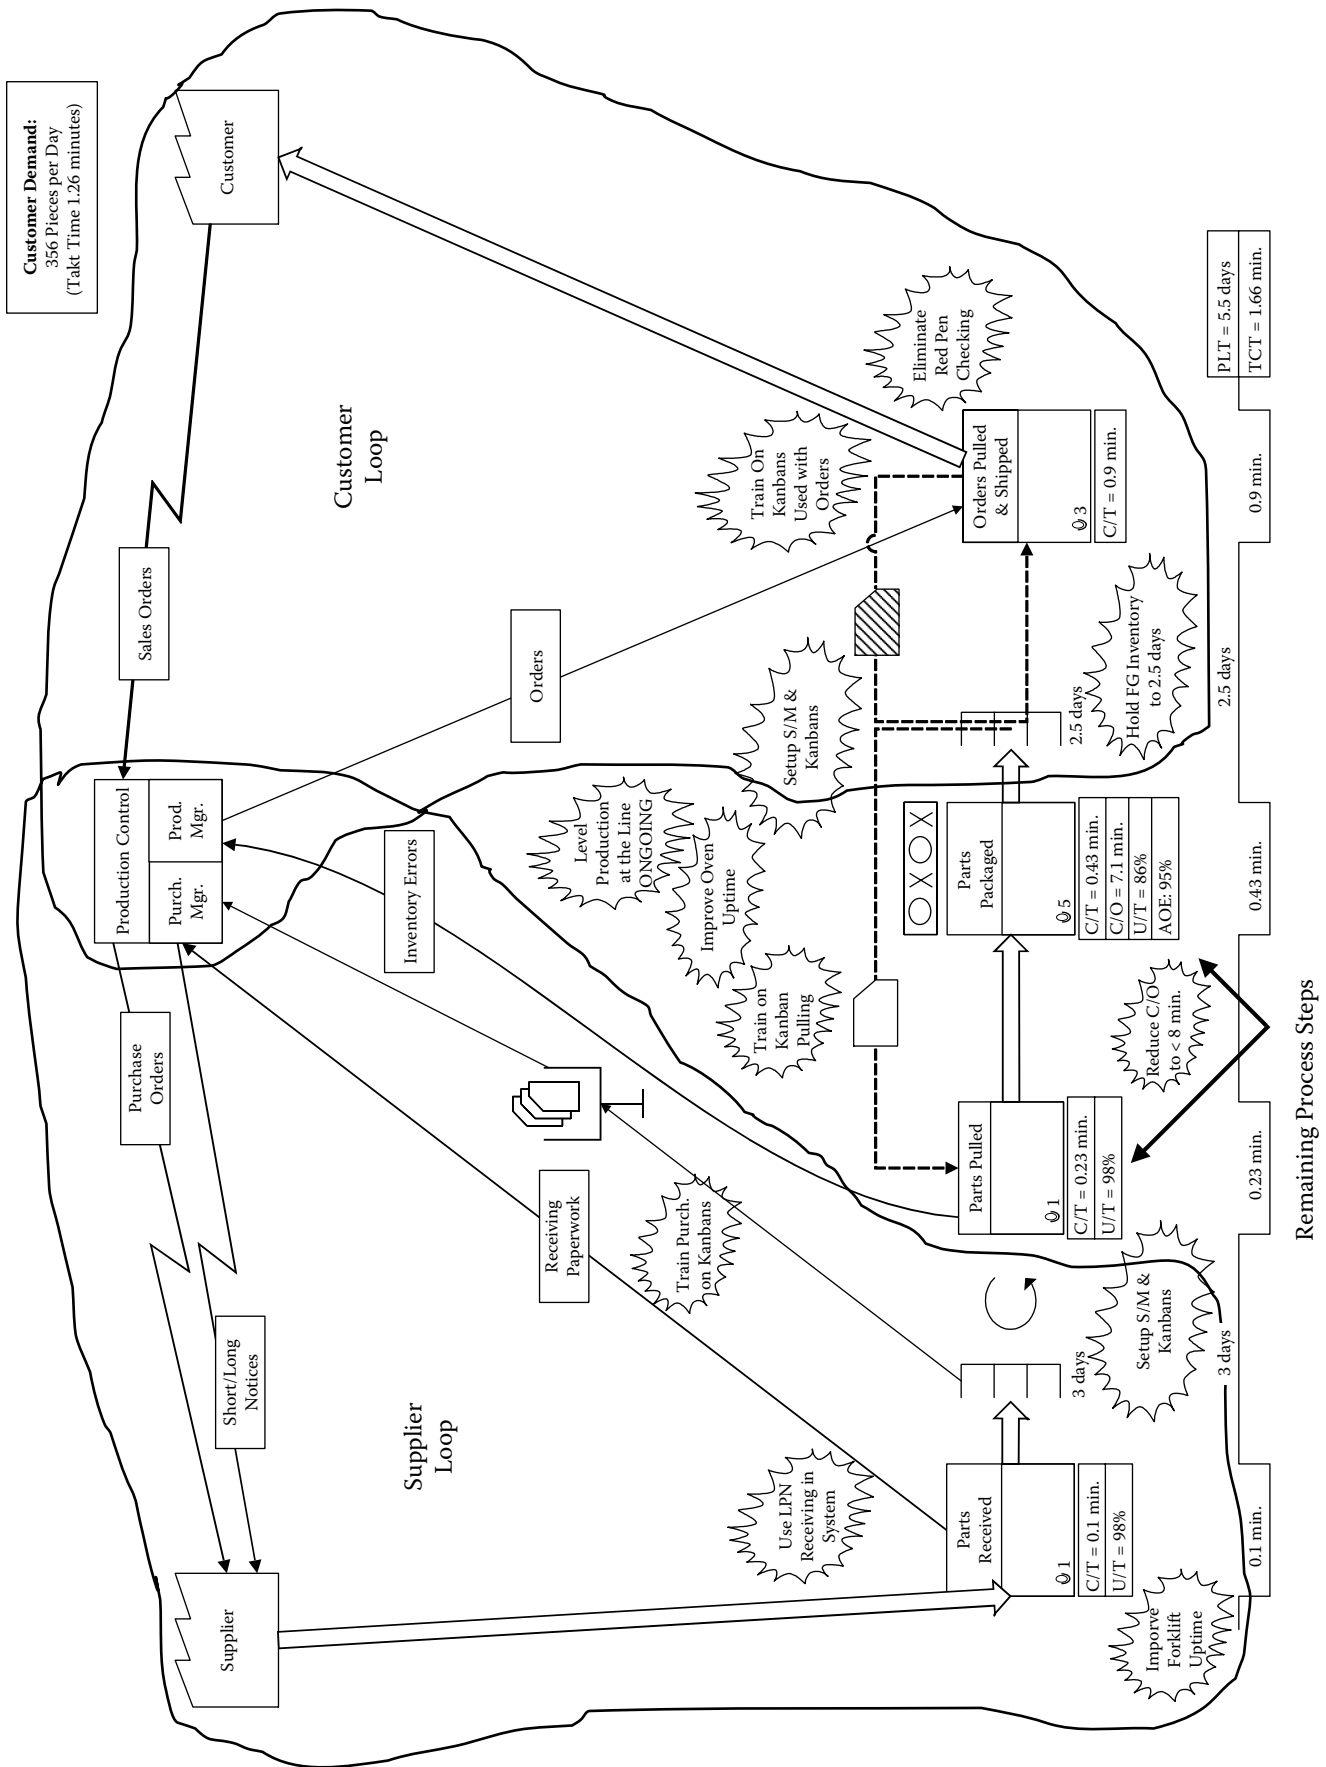
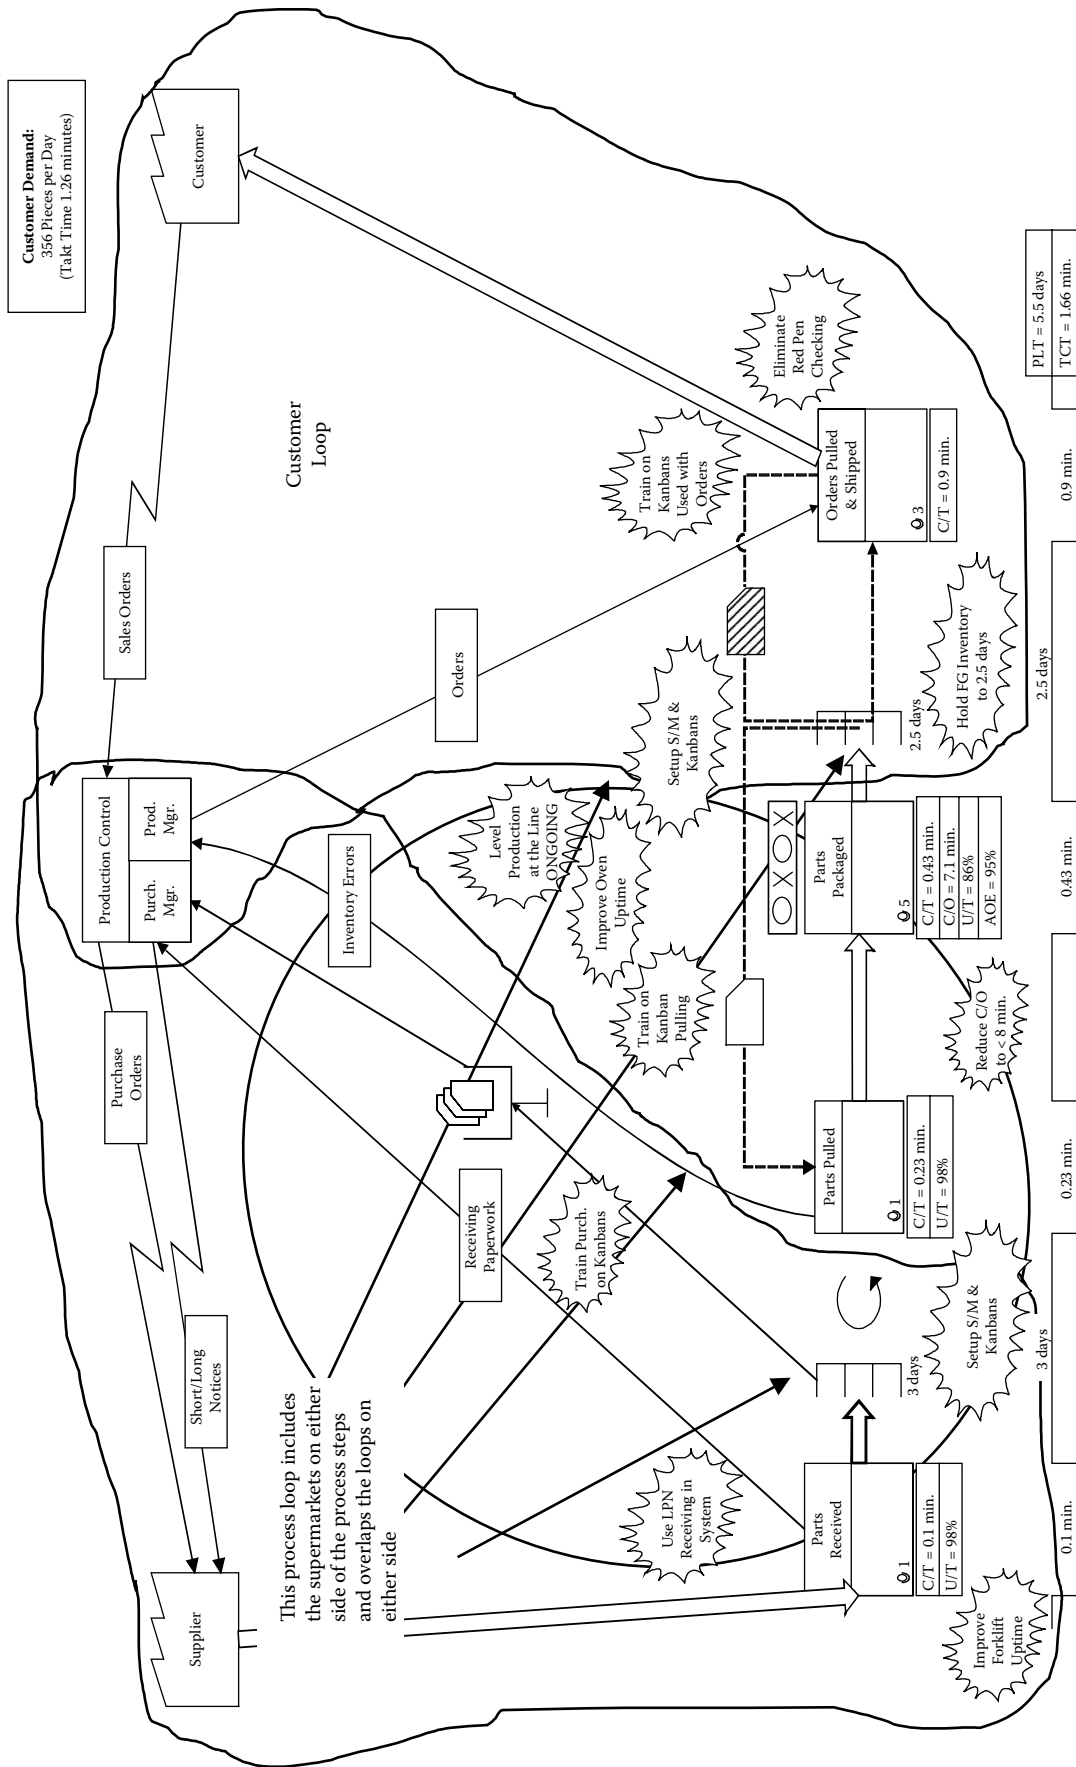
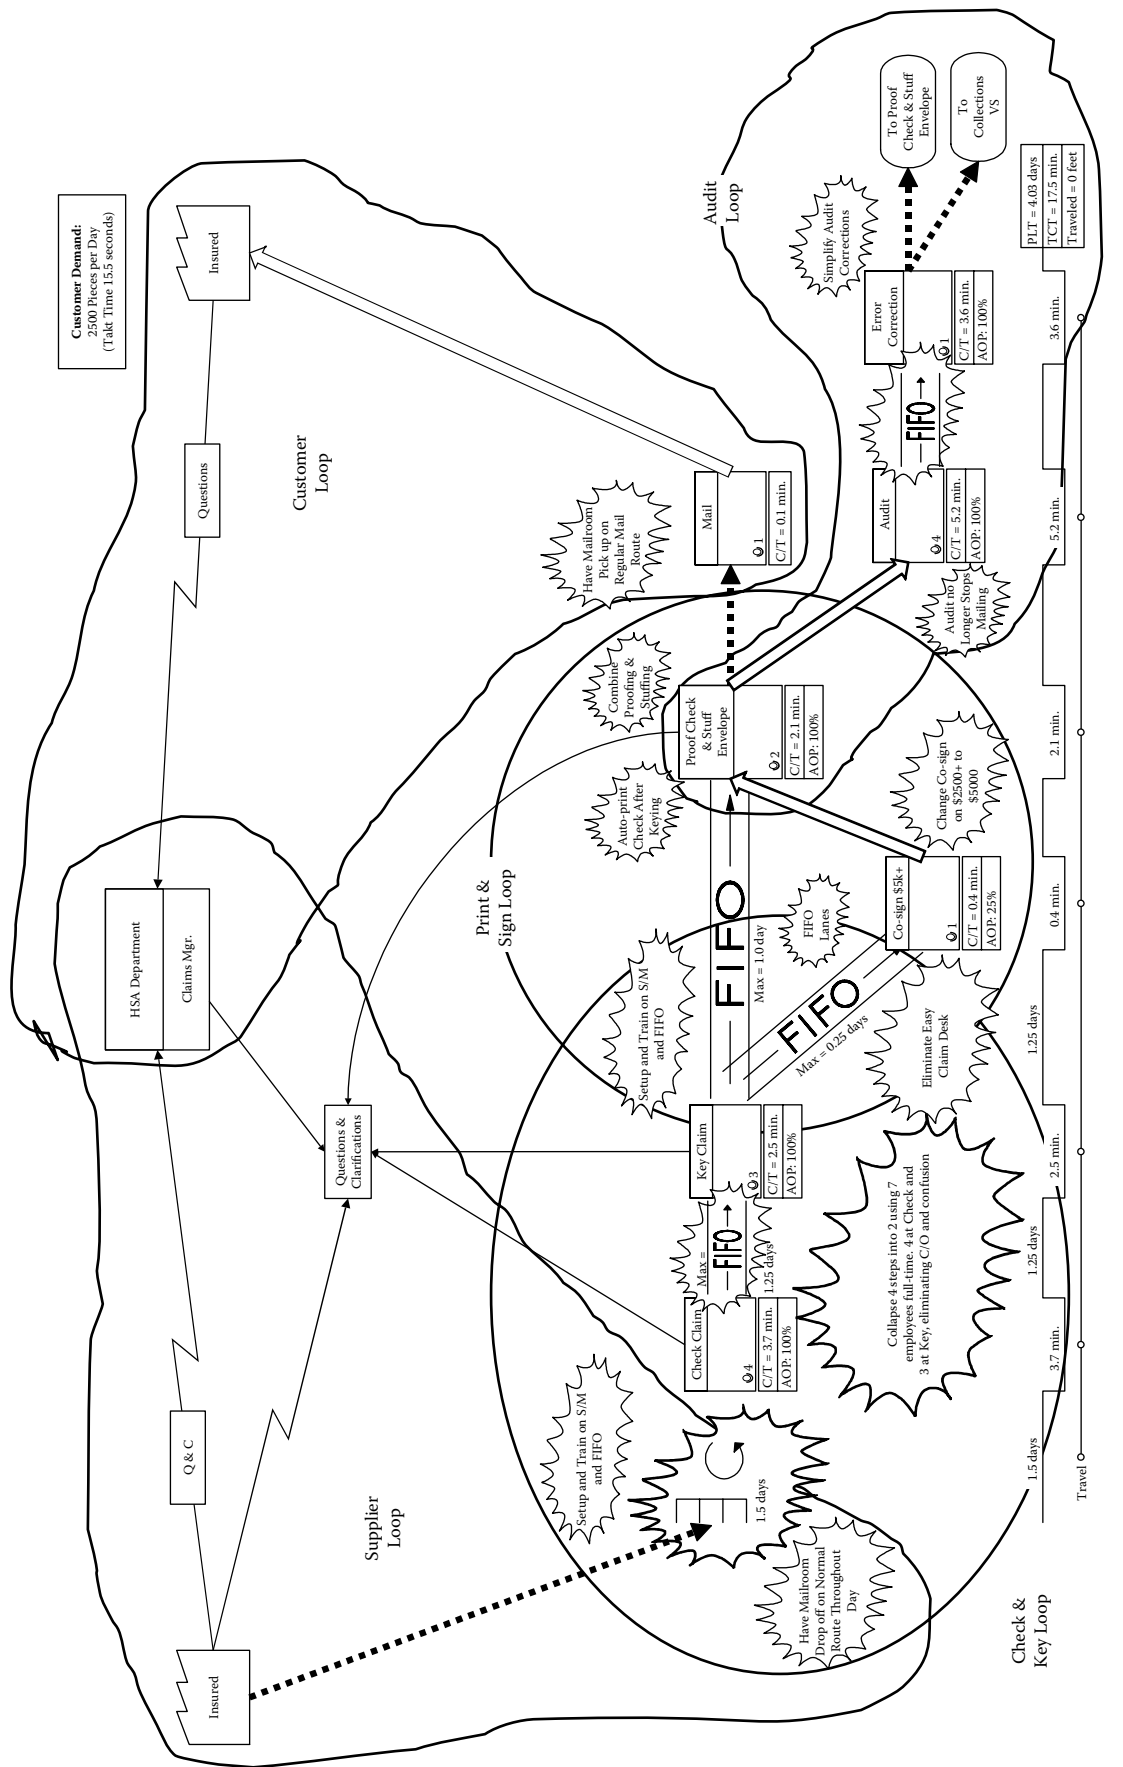

Figure 18.3 Reviewing the remaining process steps after the customer and supplier loops have been identified.
Figure 18.4 When creating the remaining process loops, extend each loop to and overlap supermarkets and the adjacent process loops.
Figure 18.5 Actual Future State Map that has had all process loops identified.
When reviewing the Future State Map, as shown in Figure 18.3, the project team will see that both ends of the process flow have been captured in loops and that all remaining process steps may or may not continually flow. If the remaining flow is broken by occasional supermarkets or FIFO lanes, the team should break this into multiple process loops. Otherwise, the remaining steps in the process can be captured as a single process loop, as shown in Figure 18.4.
When you’re documenting these additional process loops, draw the lines to include the supermarket or FIFO lane on either end of the loop. As you can see in Figures 18.4 and 18.5, the loops overlap each other. However, whereas Figure 18.4 demonstrates the impact of continuous flow through the middle of the value stream, Figure 18.5 shows the effects of additional supermarkets and
In the event that there are numerous FIFO lanes or supermarkets established in the middle of the process flow with only one process step in between two FIFO symbols, the team might elect to group several process steps and associated FIFO lanes together to form a process loop, as shown in Figure 18.5. Other times, it may be easier to attack the value stream one process step and a FIFO lane, or supermarket, at a time.
The project team can make a determination as to what is included in a loop during the identification exercise. As you can see in Figure 18.5, the additional steps were broken into three distinct, yet overlapping, loops. Each one was given a name to simplify action plan development. What a loop is named is entirely up to the team.
List each process loop on a flipchart or whiteboard. Underneath each process loop name, list all kaizen bursts that are contained within the loop drawn on the Future State Map. Ensure that all kaizen bursts on the map are listed underneath a process loop, even if you have left a burst outside of all loops. Using the Future State Map in Figure 18.5, this list would appear as shown in Figure 18.6.
**Figure 18.7** The prioritized list of process loops from the Future State Map in Figure 18.5. Note that the action items, or process improvement tasks, are not prioritized at this point in time.